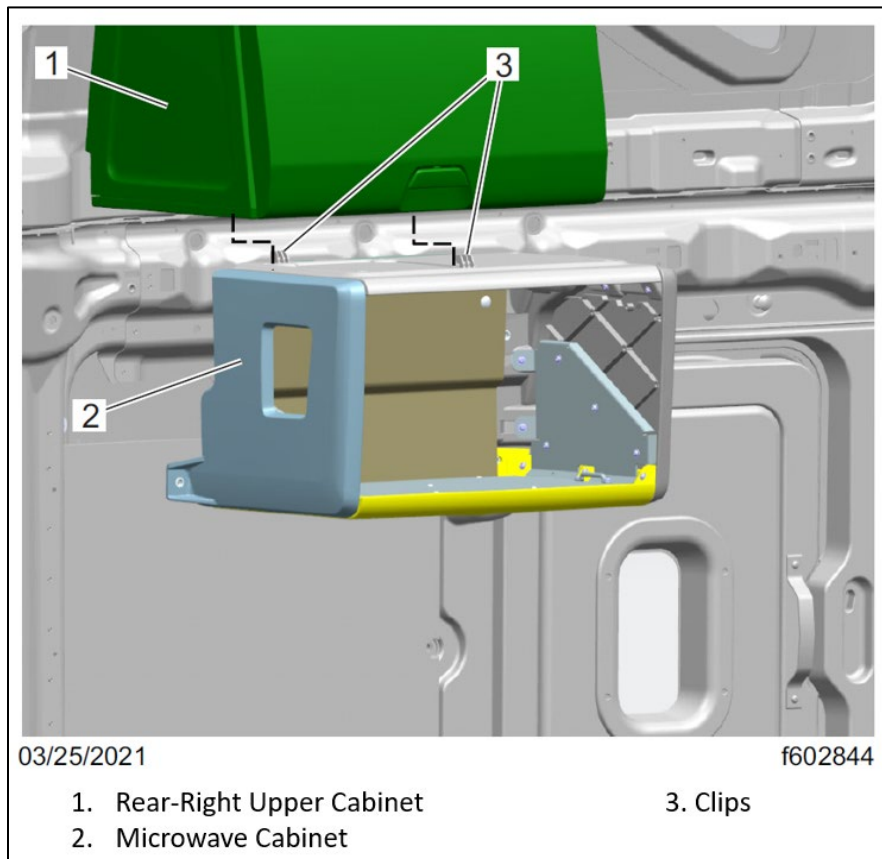

Fig. 40, Disengage Microwave Cabinet Clips
- 5.4. Pull the microwave cabinet out so that the clips on the microwave cabinet disengage from the rear-right upper cabinet, and then remove the microwave cabinet from the vehicle. See Fig. 40.